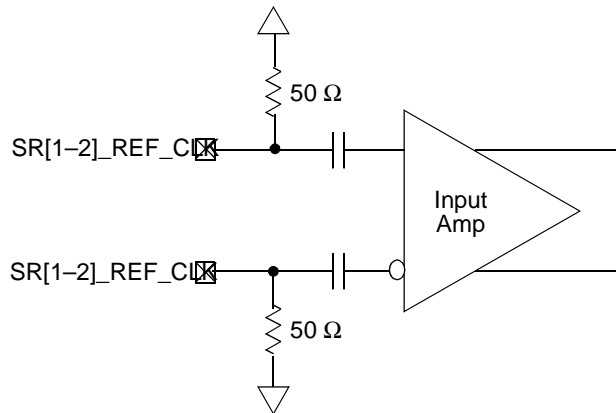

Figure 5. Receiver of SerDes Reference Clocks
The SerDes reference clock inputs are applied to an internal PLL whose output creates the clock used by the corresponding SerDes lanes. The SerDes reference clock inputs are SR1_REF_CLK/SR1_REF_CLK or SR2_REF_CLK/SR2_REF_CLK. Figure 5 shows a receiver reference diagram of the SerDes reference clocks.
- The SR[1-2]_REF_CLK and SR[1-2]_REF_CLK are internally AC-coupled differential inputs as shown in Figure 5. Each differential clock input (SR[1-2]_REF_CLK or SR[1-2]_REF_CLK) has on-chip 50-Ω termination to GND_SXC followed by on-chip AC-coupling.